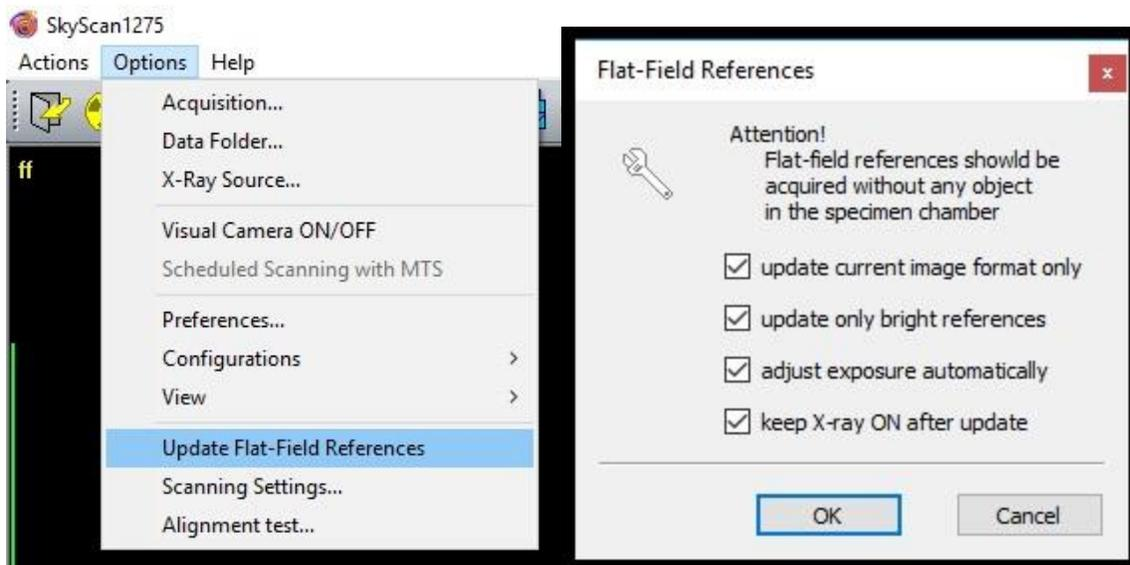

Figure 5. Updating the flat-field references.
6. Go to “Options -> Update Flat-Field References” and check the appropriate boxes. If you have not already done a dark flat-field for the day, uncheck the box “update only bright references”. Otherwise, keep all the selections and press “OK” (Figure 5).